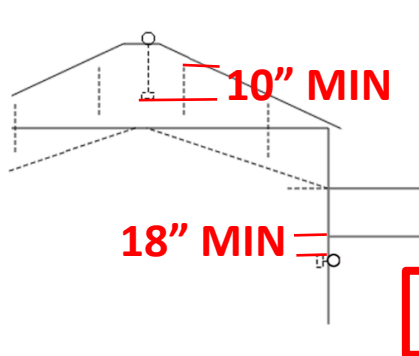

Figure 25
- Drying chamber full rotary paddle mounted a minimum of 10in below the top of the top leveling band. Ex (Figure 25)